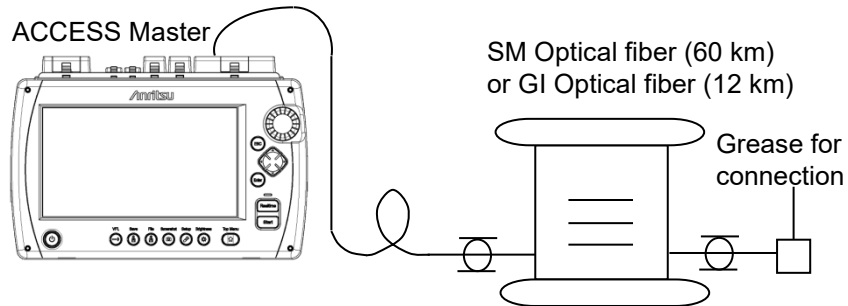

Figure 15.3.5-1 Connection Diagram
Connect the devices as in Figure 15.3.5-1.
18. Place Marker ① at 0 km and Marker ② at 3 km.
19. Record dB/km between ① and ②. This is L_1 in Figure 15.3.5-2.
20. Move Marker ① to 1.5 km and Marker ② to 4.5 km by turning the rotary knob.
21. Record dB/km between ① and ②. This is L_2 in Figure 15.3.5-2.